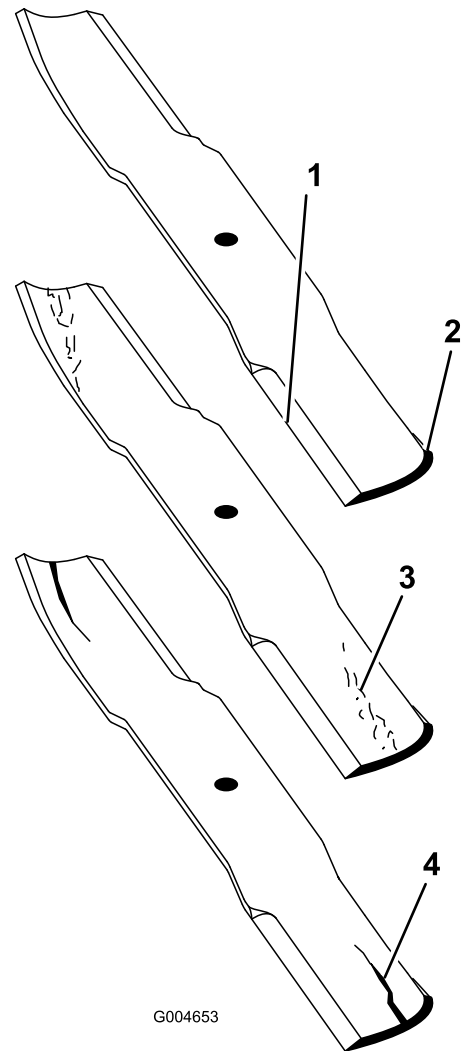

Figure 77
2. Examine the cutting ends of the blade carefully, especially where the flat and curved parts of the blade meet (Figure 77).
Note: Because sand and abrasive material can wear away the metal that connects the flat and curved parts of the blade, check the blade before using the mower. If wear is noticed (Figure 77), replace the blade.
3. Examine the cutting edges of all of the blades and sharpen the cutting edges if they are dull or nicked (Figure 77).